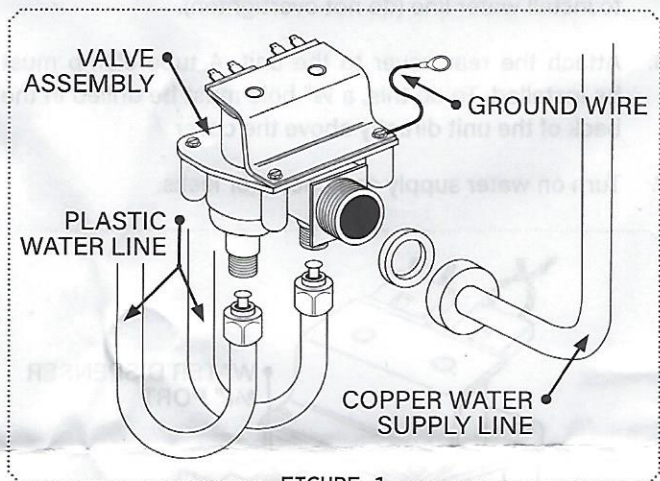

FIGURE 1
4. Remove the copper and plastic water supply lines from the valve assembly. (See Figure 1)